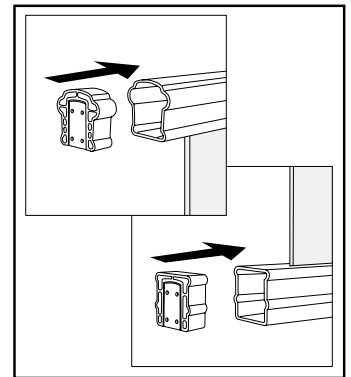

Figure 4
5. Slide two top and bottom rail brackets on ends of completely built rail sections (Figure 4).